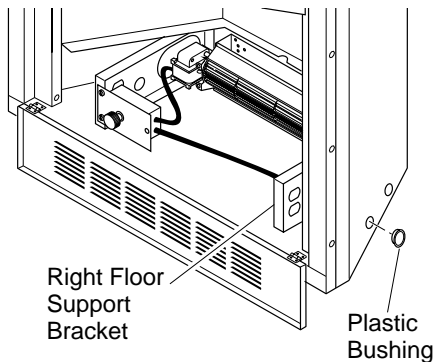

Figure 21 - Installing Plastic Bushing for Power Cord (Right Side Exit Shown)
- a. If your firebox is installed as a free-standing unit with an accessory mantel, determine whether the power cord will exit the left side or the right side of the firebox. Install one plastic bushing provided into the 1 1/2" hole in the floor support on the exit side. Install the second bushing provided into the 1 1/2" hole in the outer casing through which the power cord will exit (see Figures 21 and 22, page 13). Route power cord through plastic bushings and plug the power cord into a properly grounded three-prong wall receptacle near the firebox.